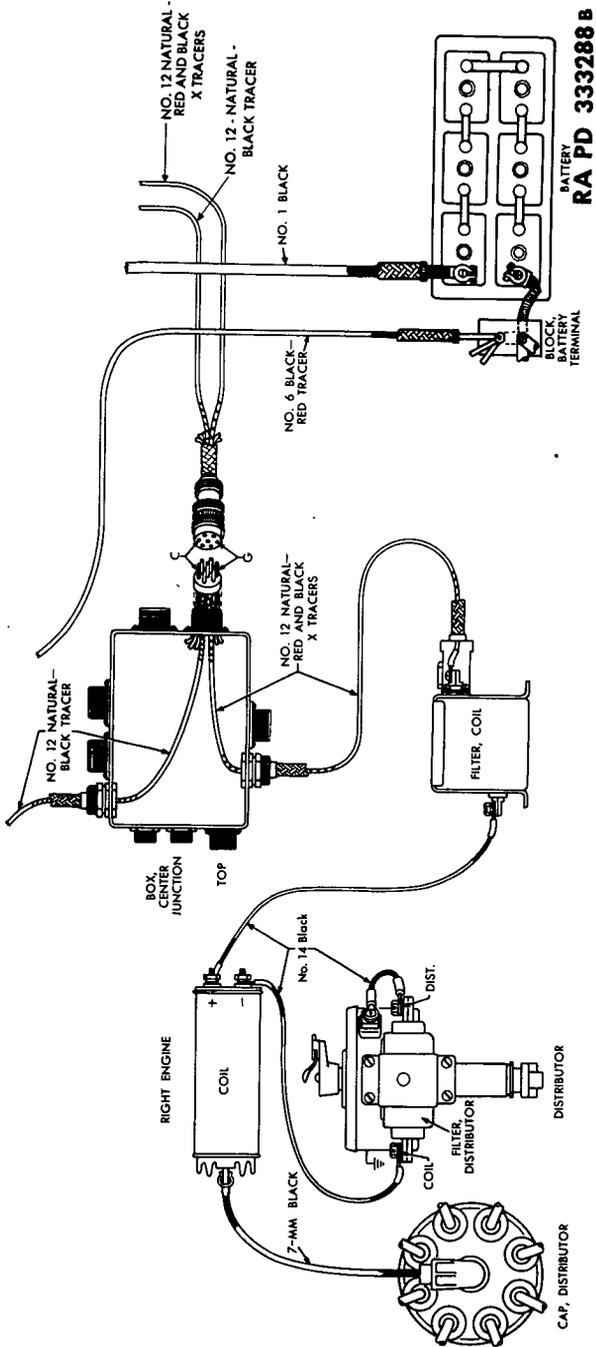

Figure 47 — Ignition System Wiring Diagram
a. Two identical, but completely independent ignition systems are used, one for each engine. Each system consists of an ignition coil mounted on the engine compartment side of the bulkhead; a timer inside the distributor housing which interrupts the low-tension (12-volt) current from the battery; a condenser, also located in the distributor housing, which, acting with the timer, produces a high-tension voltage in the secondary circuit of the coil; a distributor which directs the high voltage to each of the spark plugs in turn; the spark plugs themselves which ignite the fuel mixture; the resistor and filters which minimize electrical interference with the radio equipment; and the necessary wiring to connect these units. The wiring diagram of the ignition system is given in figure 47.
(1) COIL.